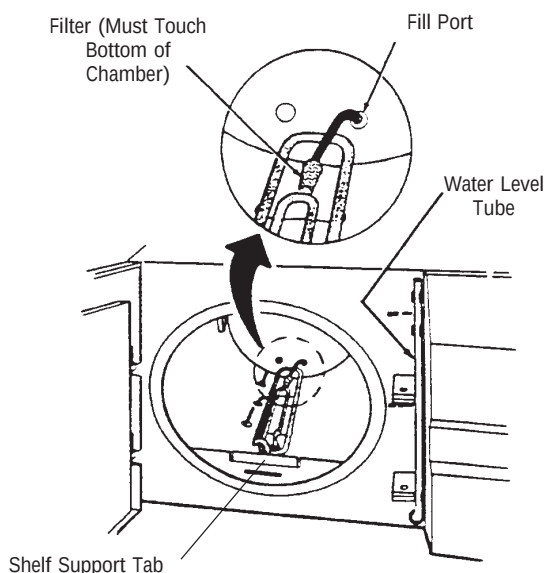

**Figure 5-7**
5. Place bottom shelf back into chamber and make sure the front edge of the shelf is inserted into tab for shelf support (Figure 5-7). Be careful not to dislodge filter when reinserting the bottom shelf.